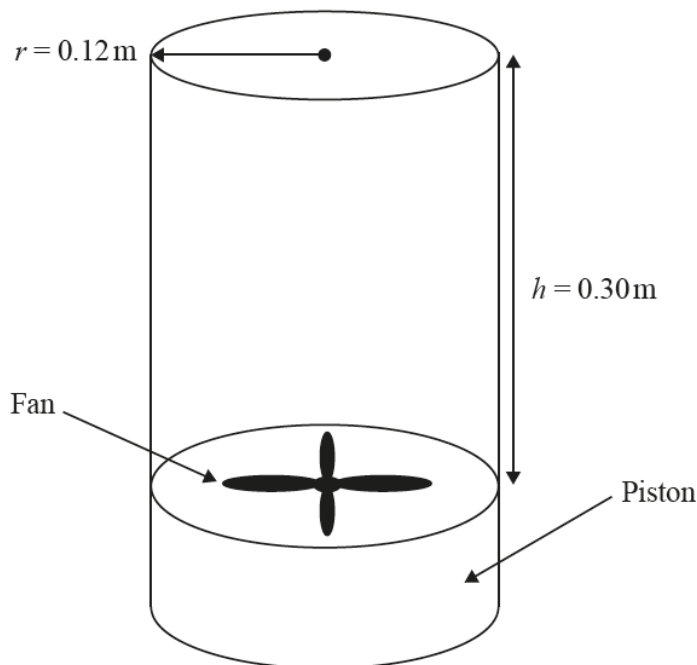

Fig. 8
- 6 (a) Fig. 8 shows a tank filled with helium, at an initial temperature of 70 °C.